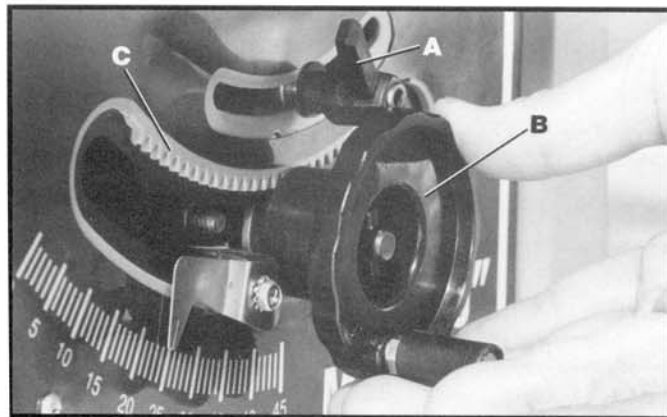

Fig. 22
FINE ADJUSTMENT BLADE TILTING - Loosen blade tilting lock handle (A) Fig. 22. Push in handwheel (B) until teeth on hub of handwheel engage with teeth (C) on front of saw cabinet. Turn handwheel (B) to tilt the saw blade to the desired angle and tighten lock handle (A).